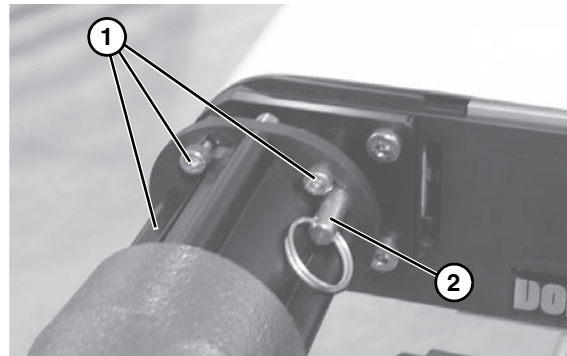

Figure 9
2. Loosen the four (4) coupling lock screws (Figure 9, item 1), remove anti rotation pin (Figure 9, item 2). Rotate and remove gearmotor assembly.